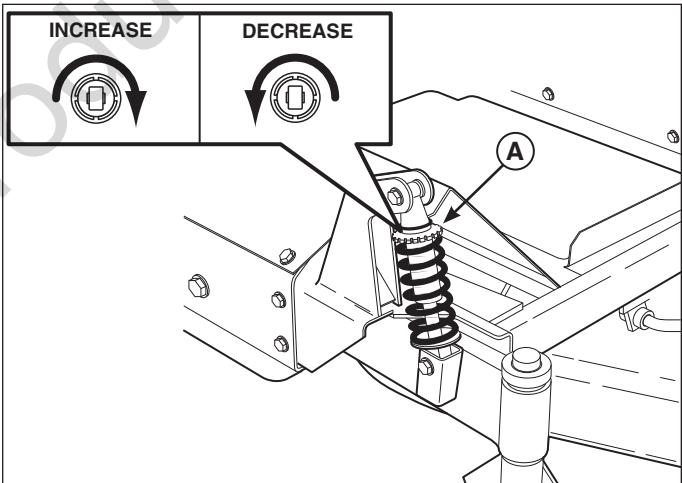

Figure 17. Front Suspension Adjustment
2. Turn the pre-load adjustment collar (**A**, Figure 17) CLOCKWISE to increase the pre-load, turn COUNTERCLOCKWISE to decrease the pre-load.